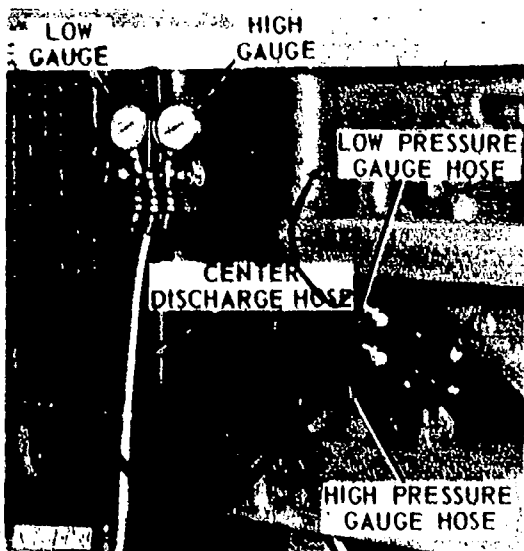

Fig. 78. Bleeding Or Discharging The System
1. Gauges connected into system, both hand valves closed (Fig. 78).